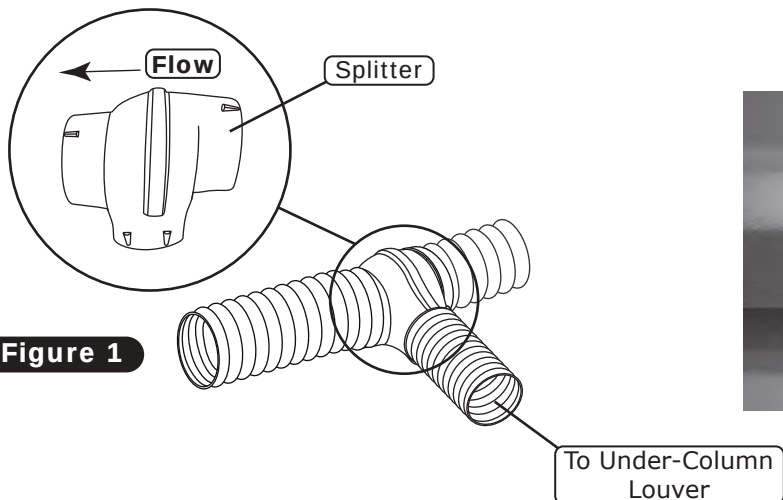

Figure 1
10. Install the 2" duct hose onto the splitter, then to the under column louver hose adapter (See Figure 1, below).